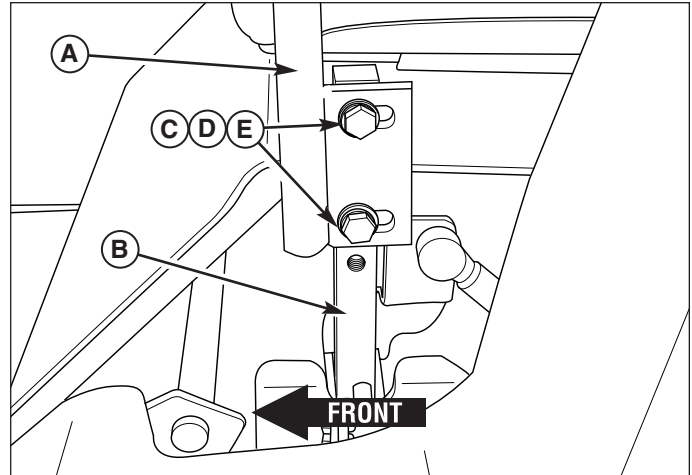

Figure 3. Install the Control Levers
1. Install the ground speed control levers (A, Figure 3) onto the control lever base (B) using the 5/16-18 x 3/4" bolts, 5/16" lock washers and 5/16" flat washers (C, D & E). Prior to tightening the bolts, align the handles with each other.
NOTE: There is a LEFT-HAND and a RIGHT-HAND control lever. When assembled to the base, the lever base should be pointing towards the rear as shown in Figure 3.